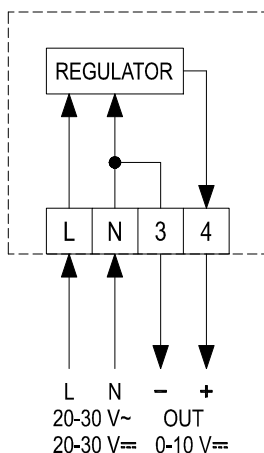

Fig. 5
4. Make the electrical connections, routing the wires through the rectangular opening (3) and following to the diagram of Fig. 5.